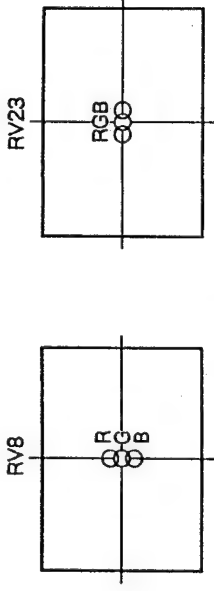

Fig. 1-11.
2. Adjust RV23 and RV8 on the DC board to coincide with the R, G and B dots at the center of the screen as shown in Fig. 1-11.